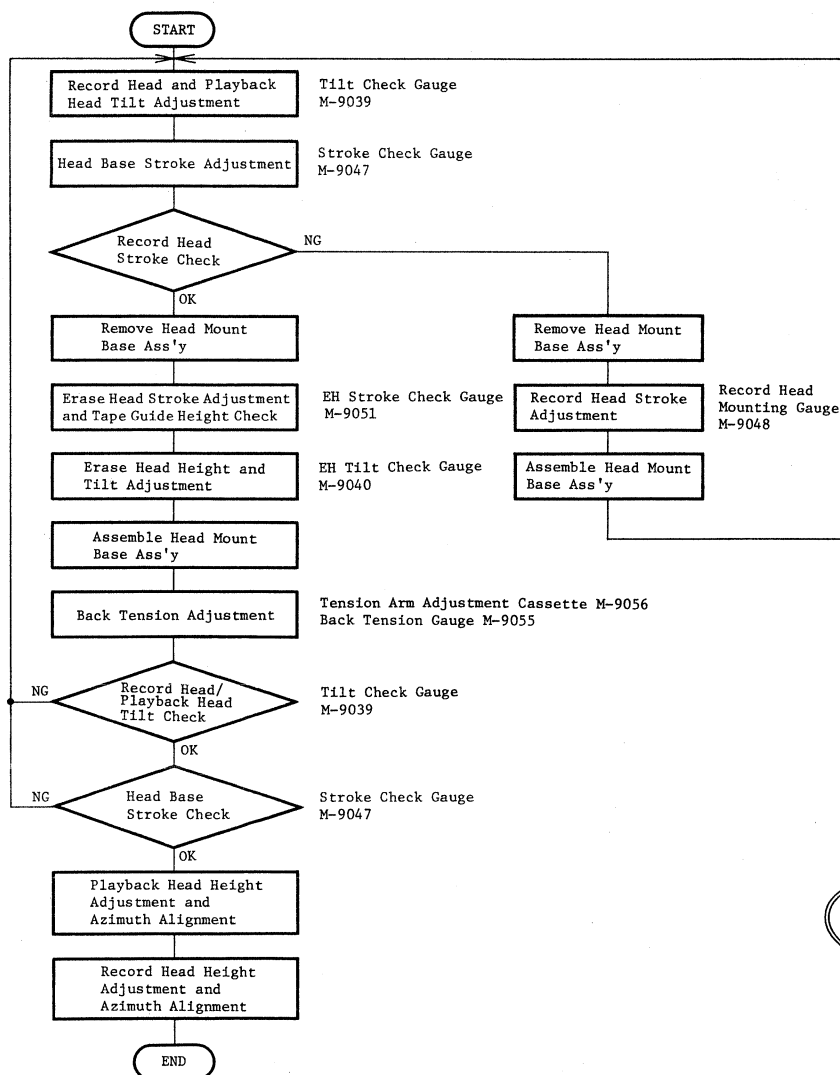

Fig. 2.2
Note: On items 2.3 — 2.9, refer to Fig. 2.2 flow chart.